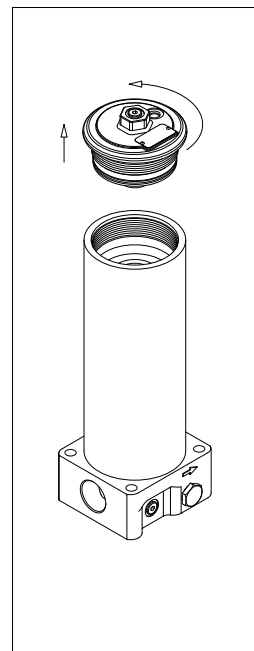

fig. 5
- (Fig. 5) Unscrew the bowl cover